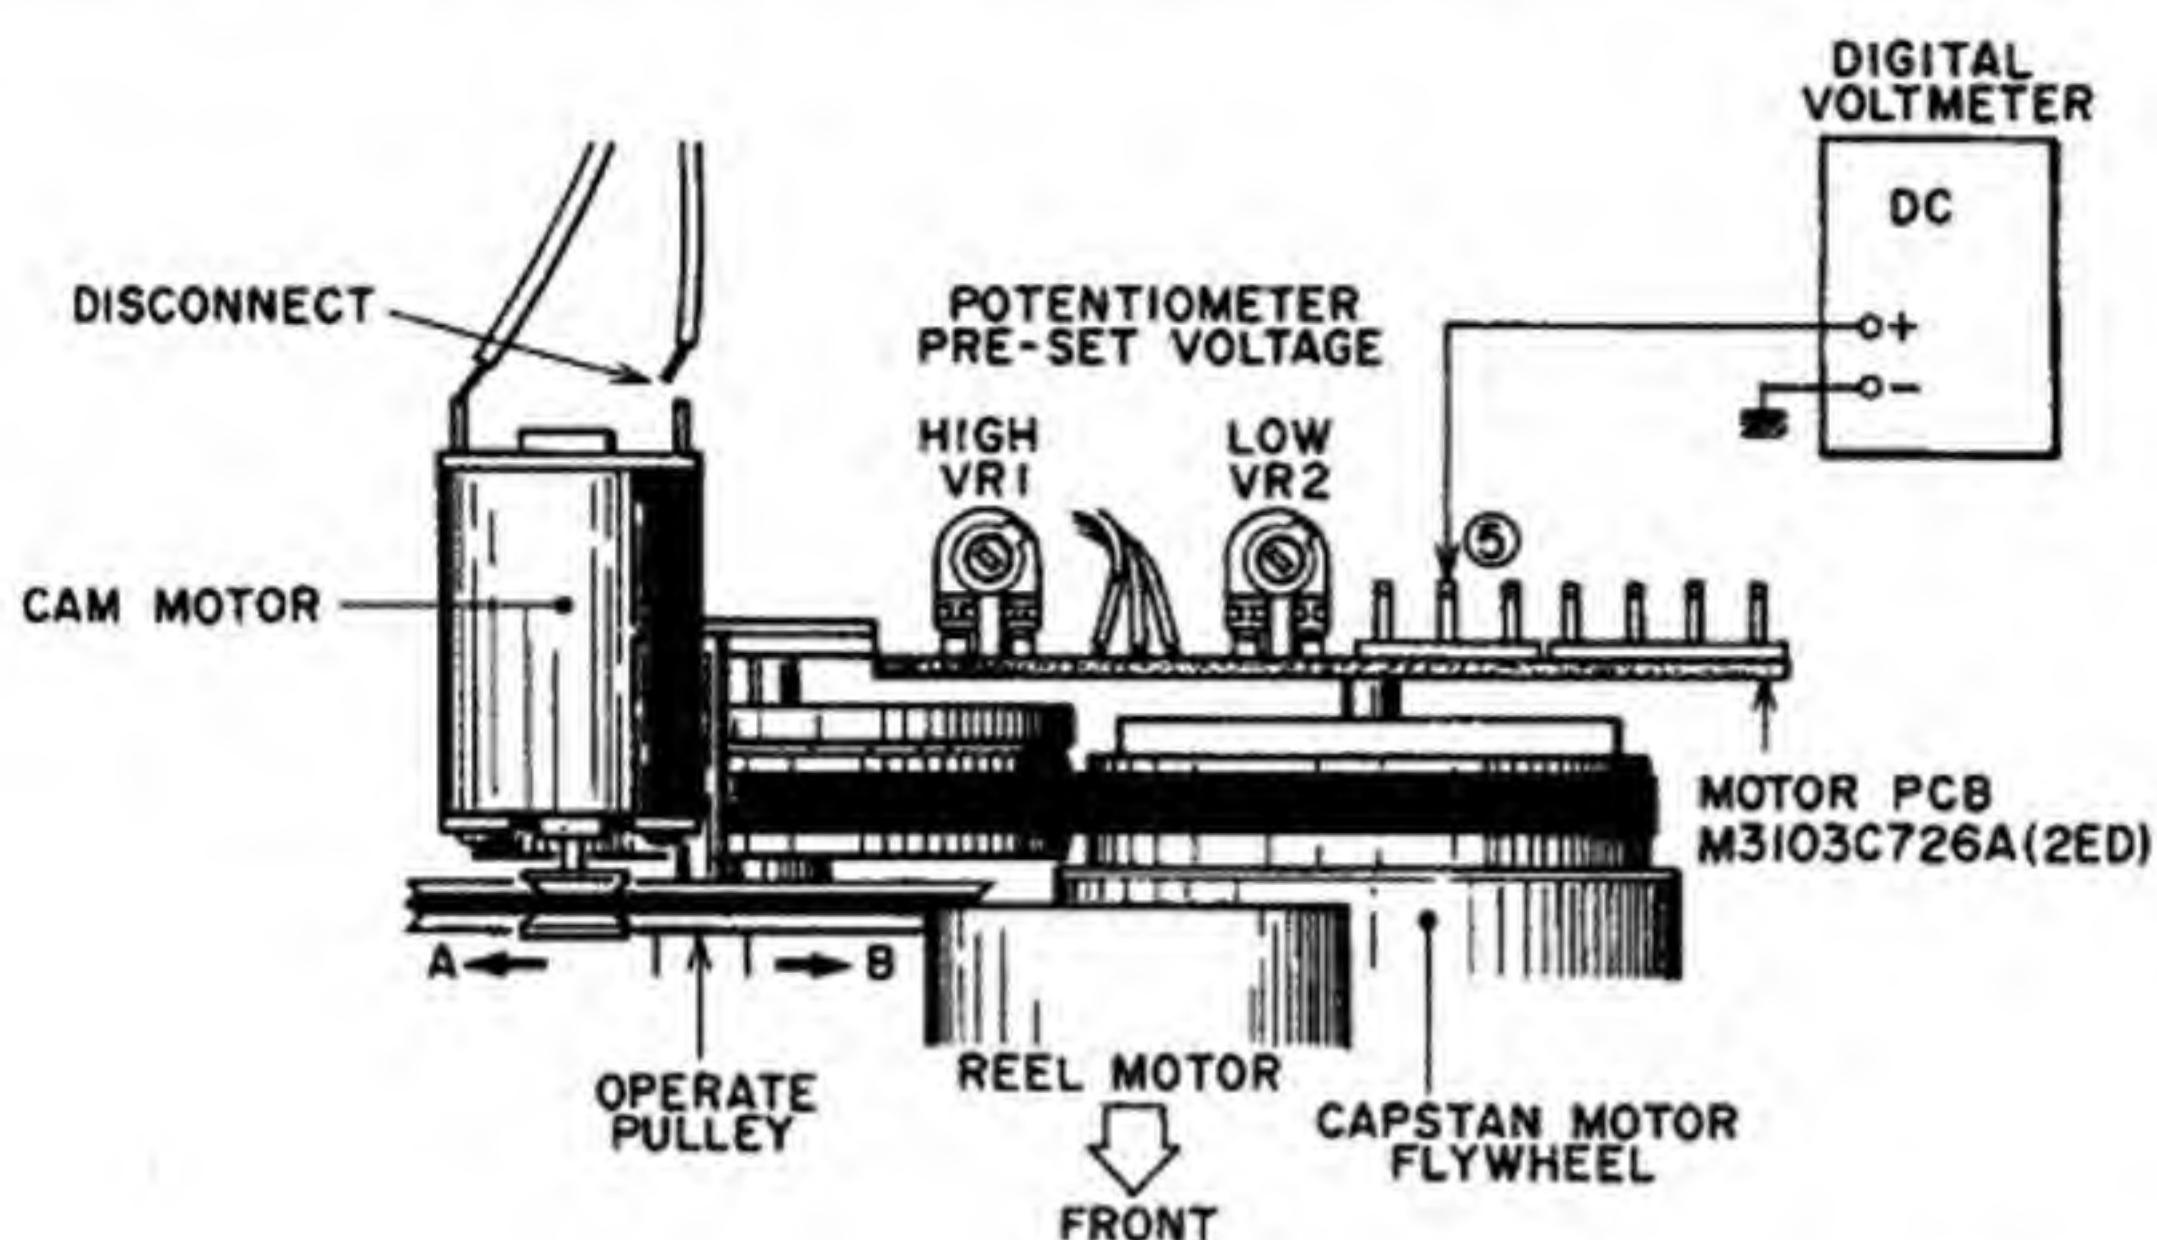

Fig. 5-1
- Connect the digital voltmeter as shown in Fig. 5-1.